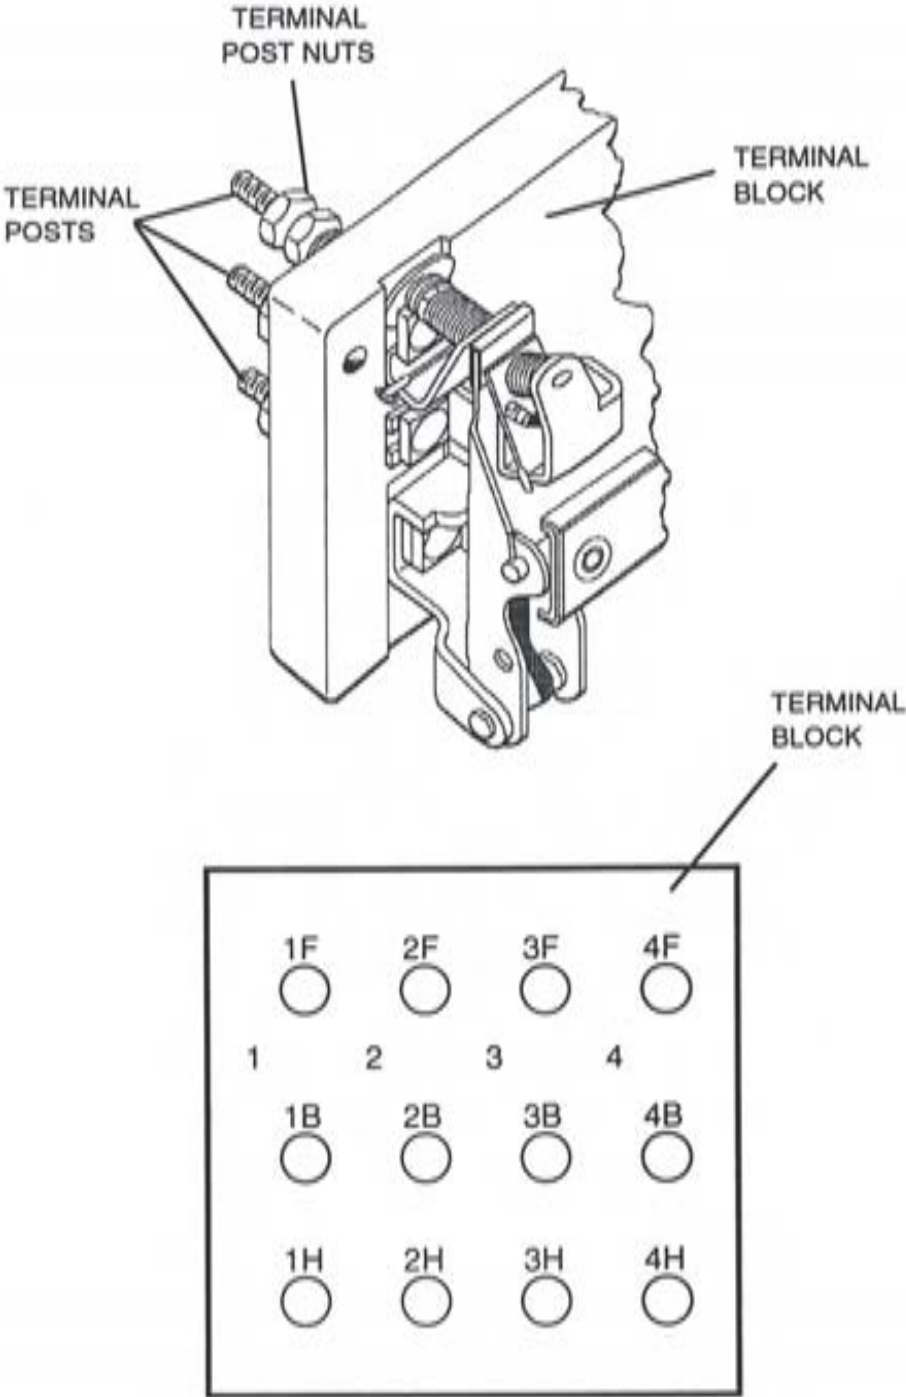

Figure 5-4. Terminal Block and Post Nuts
4. Tag and remove circuit wires from terminals on terminal block. (See Figure 5-4 for terminal designation.)
9. Install wires, jumpers, and coupling into unit. Attach wires to appropriate contact terminals. See Figure 5-4.